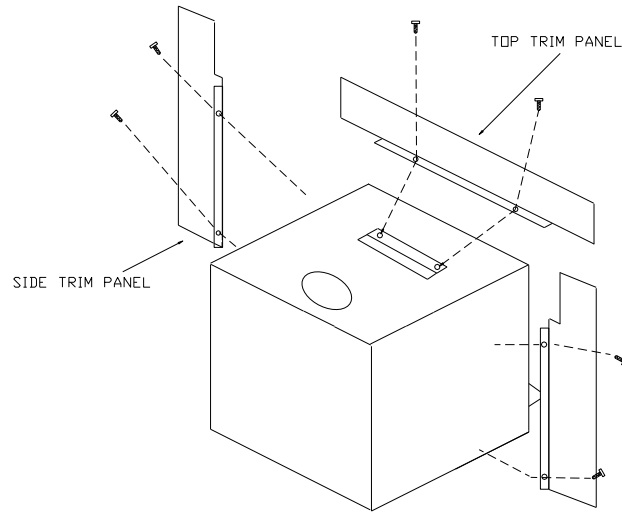

FIGURE 7 MOUNTING TRIM PANELS
1. Place side trim panels directly behind the bay windows where it will be flat against face of fireplace. Mark inside edge of trim panel to make a vertical reference line. (See Figure 7)
4. Mount side trim panels. (See Figure 7)